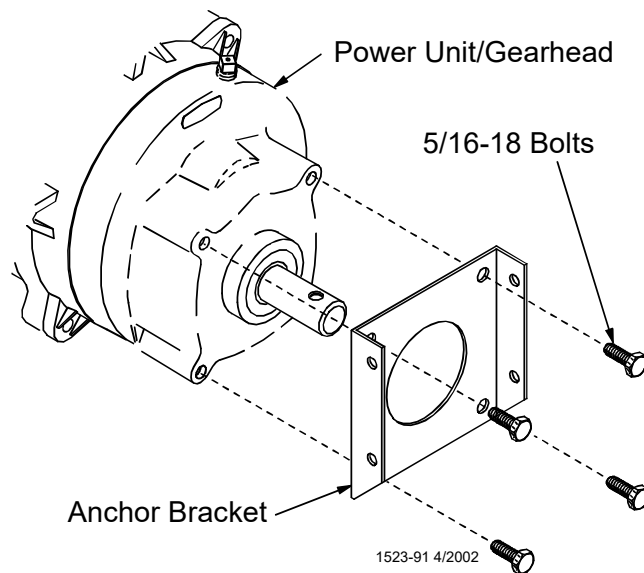

Figure 34. Installing the Feeder Boot
3. Install the Anchor Bracket to the Power Unit/Gearhead, as shown in **Figure 34**, with the included 5/16-18 Bolts